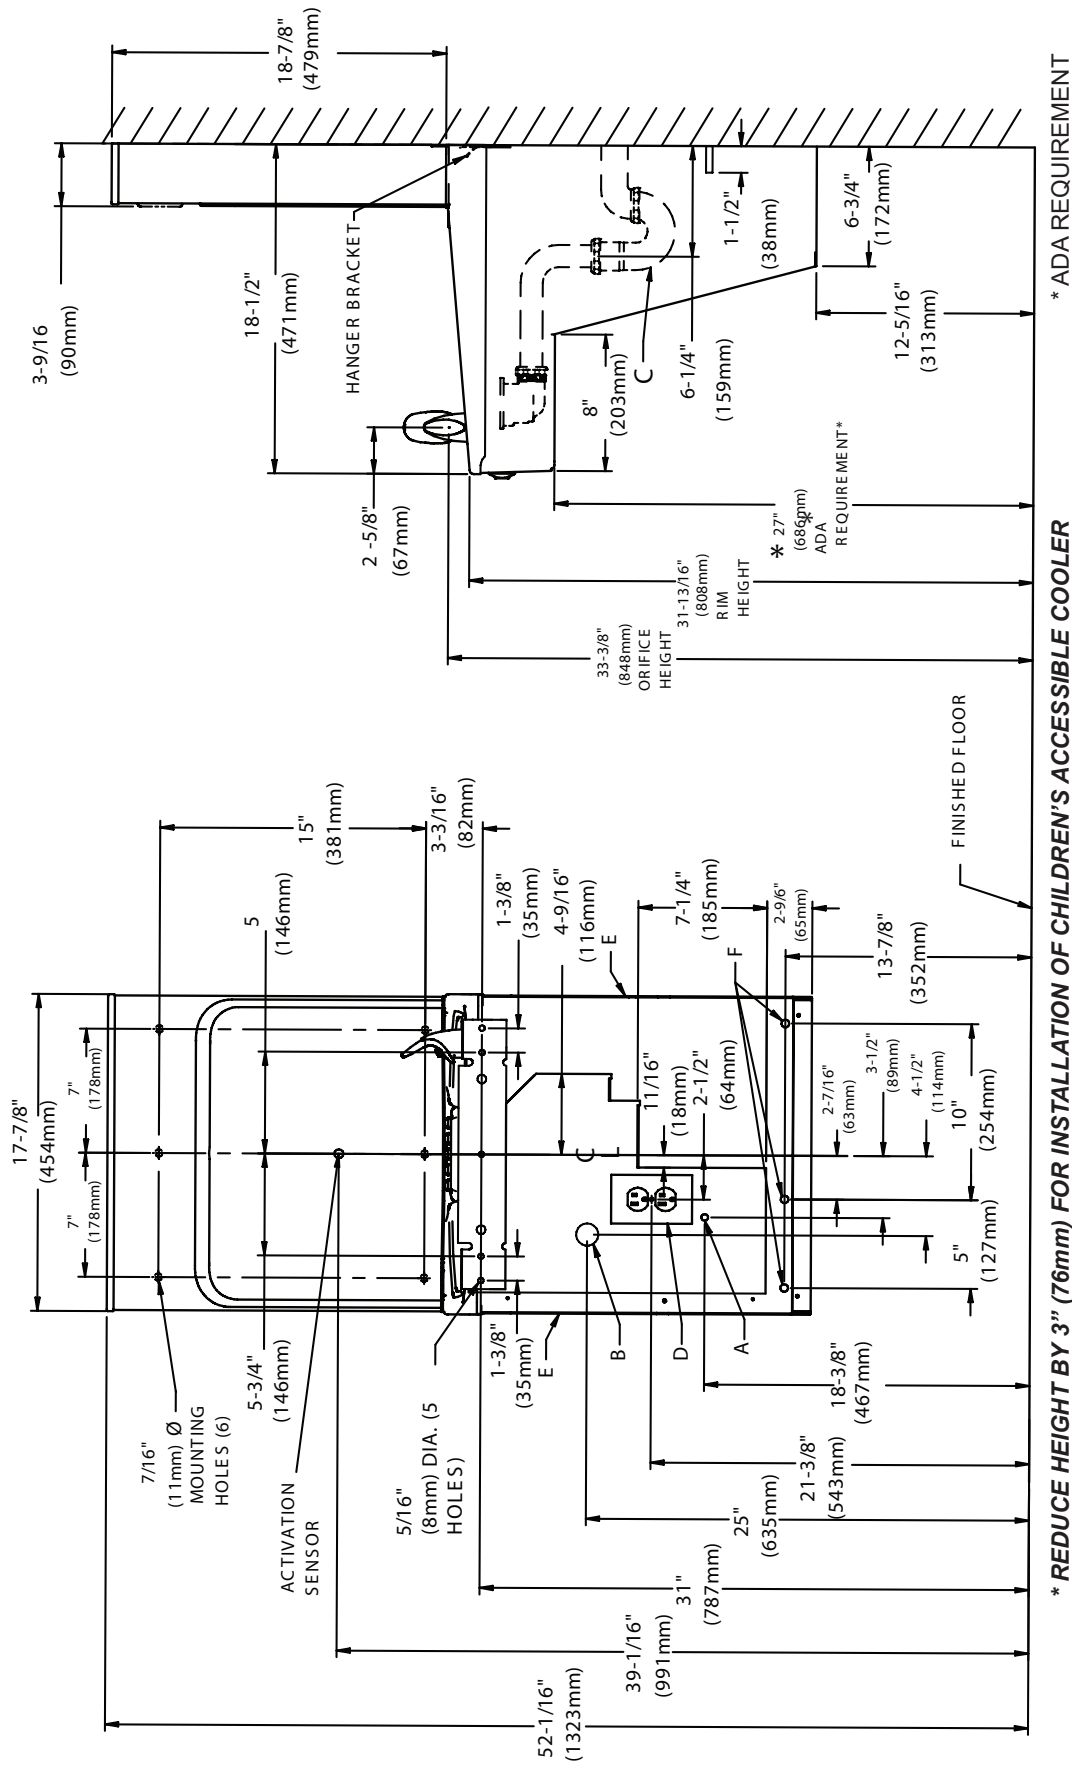

Figure 2
1. Stream height is factory set for 45-50 PSI supply. If supply pressure varies greatly from this, readjust stream height to approximately 1-1/2" (38mm) above the bubbler guard by turning adjustment screw, accessible by removing front push panel (see Fig. 2 & 10).
2. Replace the front panel and secure by re-tightening four (2) screws.